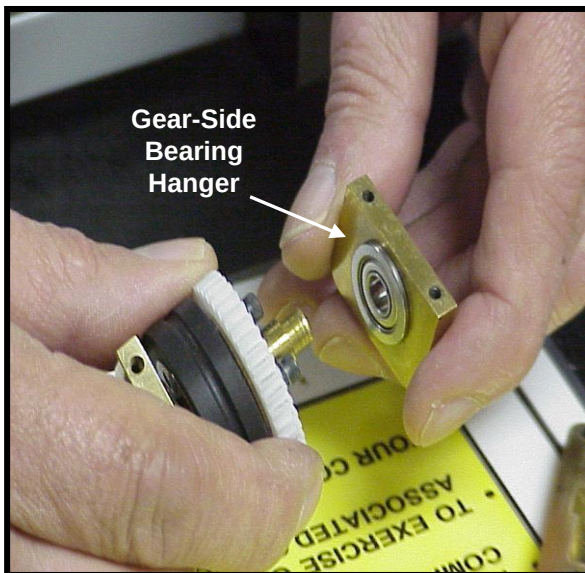

Figure 41
14.3.2.5 Slide Gear-side Bearing Hanger off the hub shaft. **See Fig. 41**